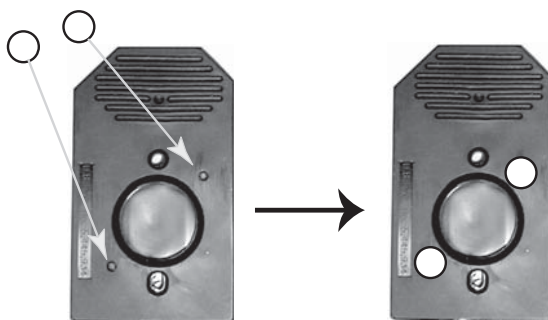

Figure 21 Applying Tough-Spots® to arrays
4. Carefully cover both septa with Tough-Spots (Figure 21).